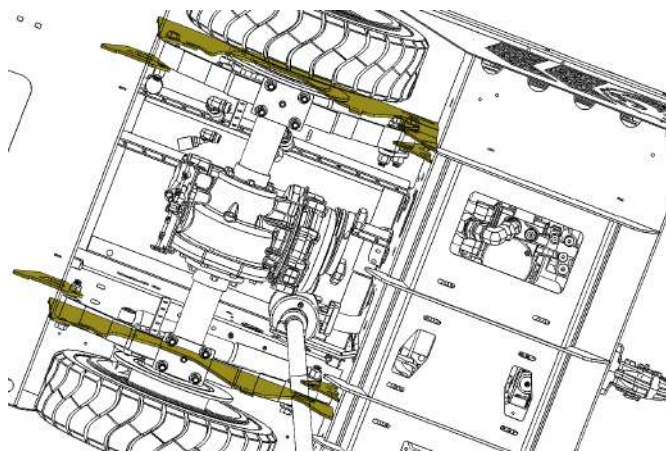

Figure 40. Rear Suspension Mounting Tabs.
- Front suspension mounting tabs (see Figure 40).